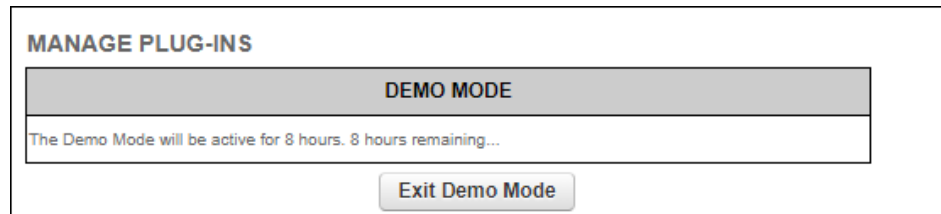

Figure 57. MANAGE PLUG-INS dialog (Demo Mode activated)
- The **Demo Mode** activation dialog will be shown (Figure 57 \(page 133\)). A countdown timer shows how much Demo time remains.